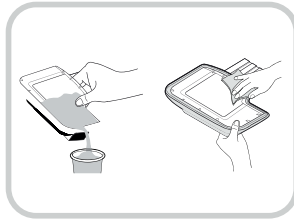

Fig. 3
- Discard the collected water and dry the remaining moisture with a soft cloth. (Fig. 3).